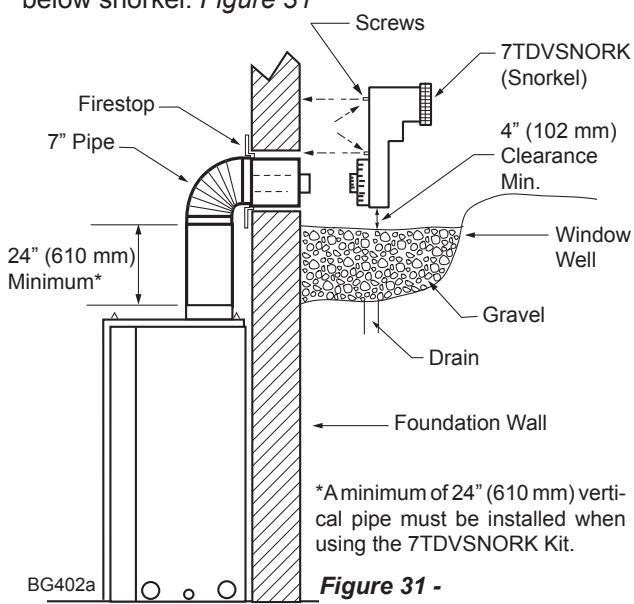

Figure 31 -
2. Remove soil to a depth of approximately 16" (406 mm) below base of snorkel. Install drain pipe. Install window well (not supplied). Refill hole with 12" (305 mm) of coarse gravel leaving a clearance of approximately 4" (102 mm) below snorkel. *Figure 31*
7. Level the soil so as to maintain a 4" (102 mm) clearance below snorkel. *Figure 31*